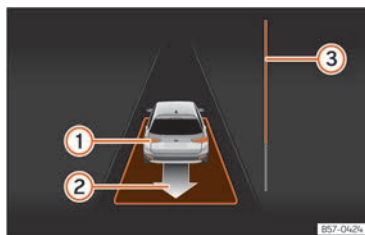

Fig. 127 On the instrument panel display: driving off from perpendicular parking.
- Reverse until the continuous ParkPilot signal sounds; **OR:** reverse until the instrument panel display shows the forward indication. The progress bar »» Fig. 127 (3) indicates the distance to cover.
- Press the brake pedal until the parking assist system completes the steering wheel turns; **OR:** press the brake pedal until the symbol (S) goes out on the instrument panel screen.